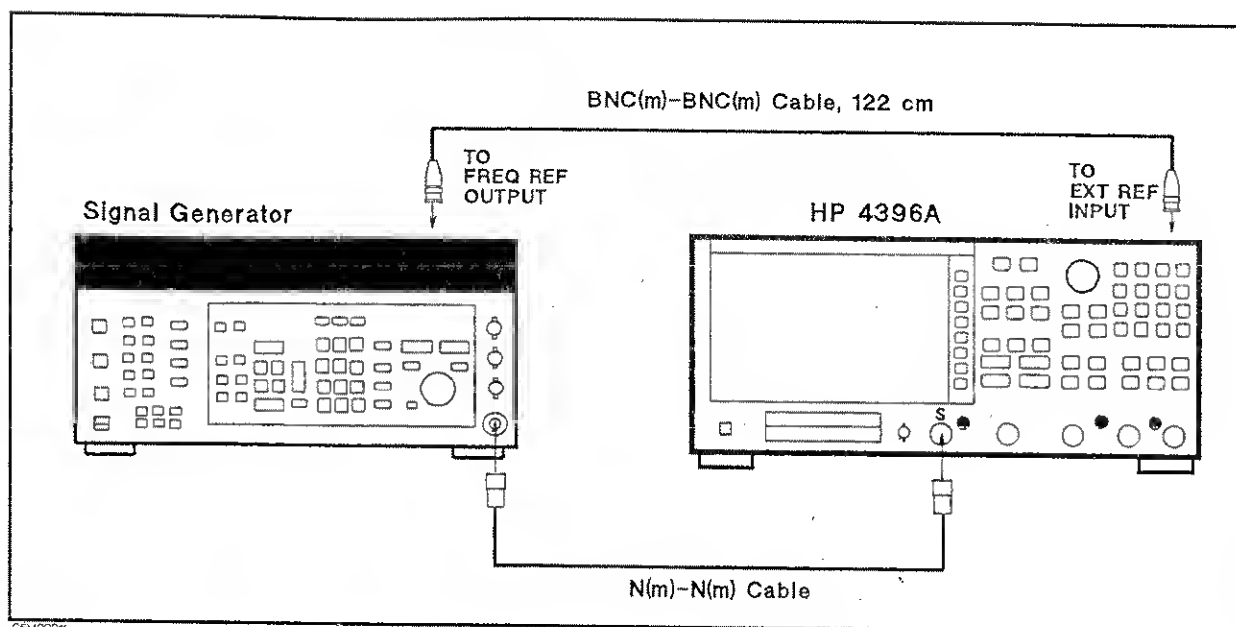

Figure 2-25. Noise Sidebands Test Setup
2. Connect the test equipment as shown in Figure 2-25.
Connect the signal generator's 10 MHz frequency reference output to the HP 4396A EXT REF Input on the rear panel as shown in Figure 2-25. With this configuration, both the signal generator and the HP 4396A are phase locked to the same reference frequency to obtain a stable measurement.